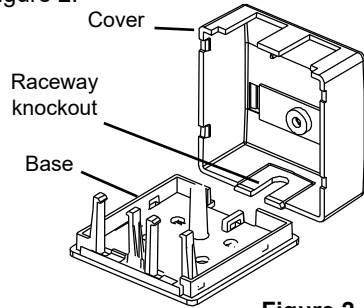

Figure 2
2. Surface boxes are compatible with MT6 Raceway. If using Raceway, cut the edges of the appropriate knockout with a utility knife and remove. Align Raceway with knockout opening. See Figure 2.